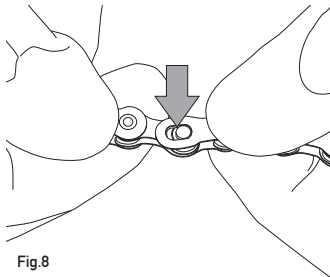

Fig.8
- Fit the pins into the area with the largest slot diameter of the C-Link™ (Fig. 8).